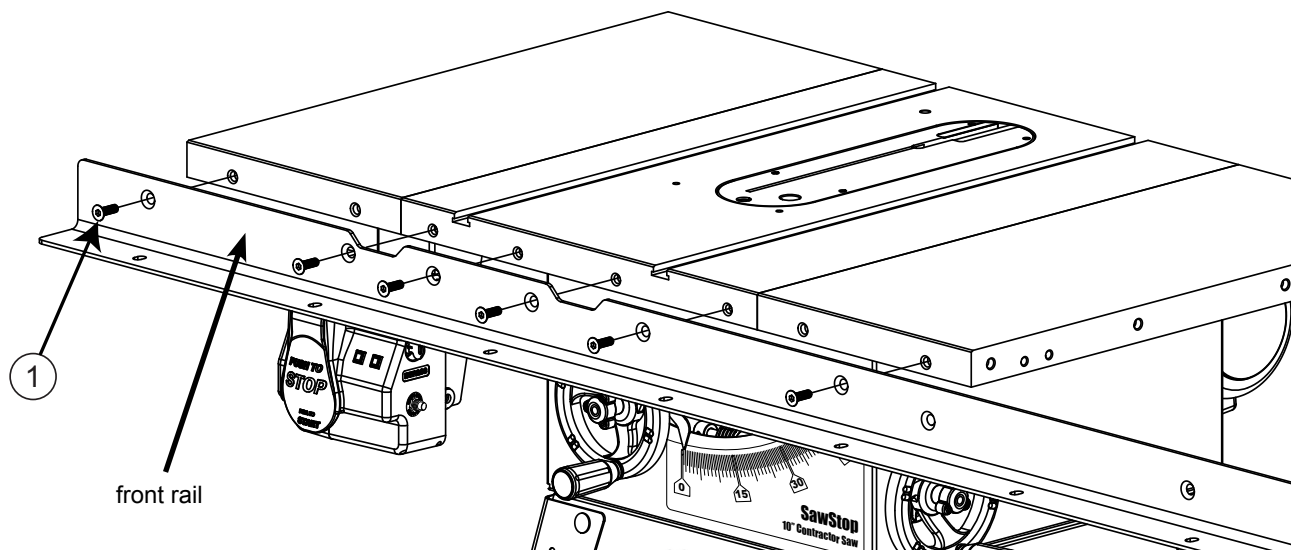

Fig. 2
2. Align the front rail (the larger of the two rails) with the front edge of the table top so the cut-outs at the top of the rail are centered on the miter gauge slots in the table and so the holes in the rail align with the holes along the front edge of the table and extension wings. Remove six M8 x 25 countersunk socket head bolts from the T-Glide rails hardware pack and insert one through each of the holes in the rail and into the table and extension wings (see Fig. 2).